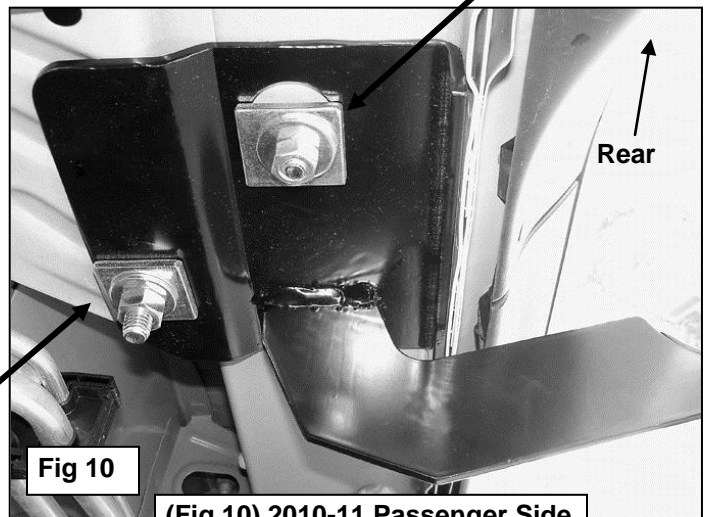

Fig 10
- b. **On 2010-11 Vehicles:** Use (1) 12mm Square Washer, (1) 10mm Flat Washer, (1) 10mm Lock Washer and (1) 10mm Hex Nut to secure the Bracket to the 10mm Bolt Plate in center of the floor panel, **(Figure 10)**. Use (1) 12mm Flat Washer, (1) 12mm Lock Washer and (1) 12mm Hex Nut to secure the Bracket to the Bolt Plate in the round hole. Do not tighten hardware at this time.
(Fig 10) 2010-11 Passenger Side